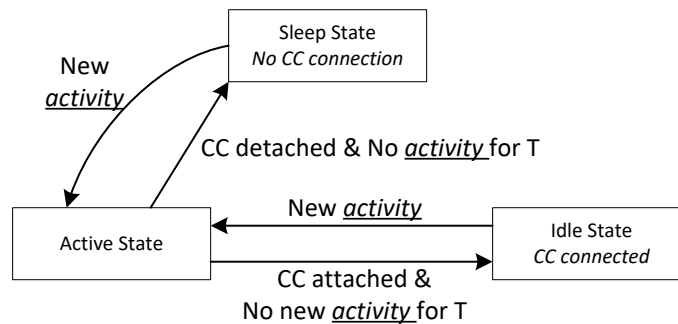

图 8-26. Flow Diagram for Power States
The TPS25730 can operate in one of three different power states: Active, Idle, or Sleep. The Modern Standby mode is a special case of the Idle mode. The functionality available in each state is summarized in 表 8-9. The device automatically transitions between the three power states based on the circuits that are active and required. See 图 8-26. In the Sleep state, the TPS25730 detects a Type-C connection. Transitioning between the Active mode to Idle mode requires a period of time (T) without any of the following activity: